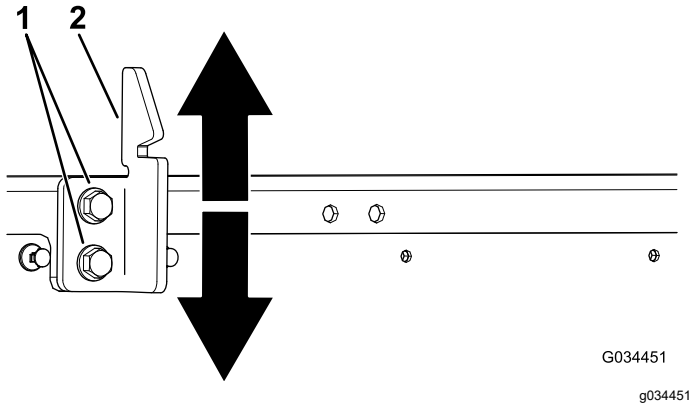

Figure 53
3. Loosen the 2 bolts on the bed-latch striker and move the striker up or down, depending on if the striker is too high or too low (Figure 53).
4. Tighten the 2 bolts on the bed-latch striker (Figure 53).